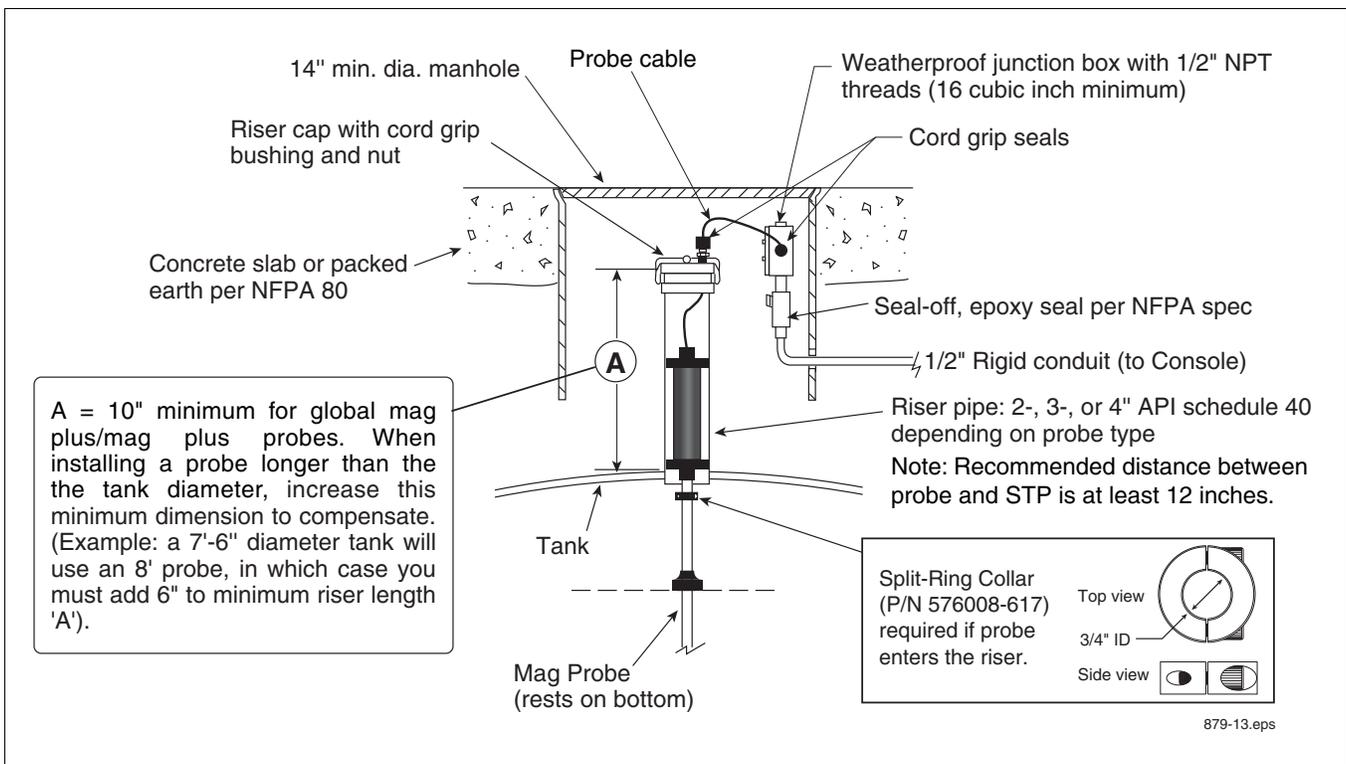
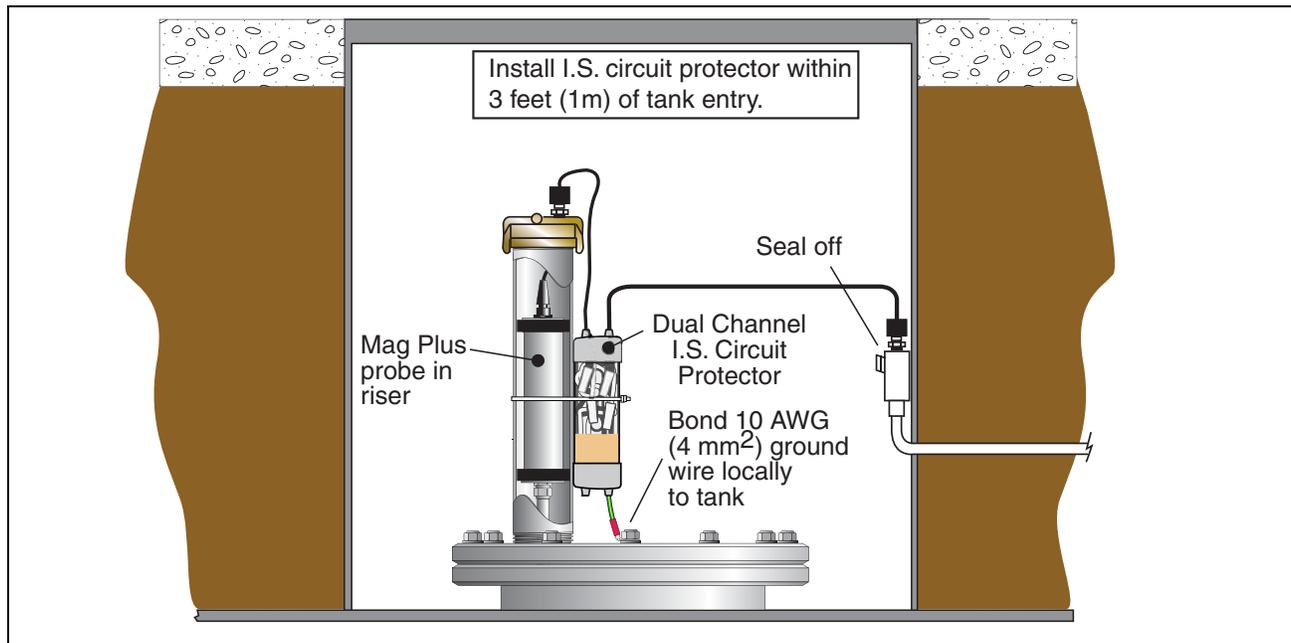
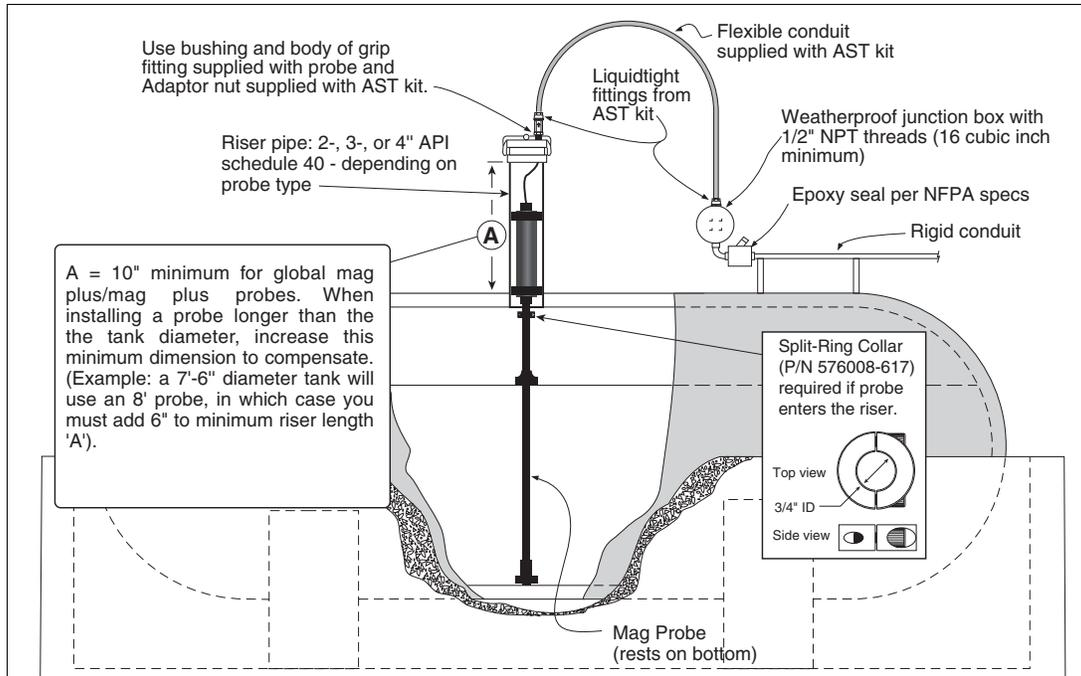

Figure 12. UST Mag Plus Probe Installation - Dedicated Riser
Figure 13. Optional UST Mag Plus Probe Installation With I.S. Circuit Protector
Figure 14. AST Mag Plus Probe Installation - Dedicated Riser
4. Gently slide the float(s) to the bottom of the probe shaft before raising the probe. Carefully lower the probe into the riser pipe until the boot rests on the bottom of the tank [See Figure 12 for example UST installation, Figure 13 for example UST installation with I.S. Circuit Protector or Figure 14 for example AST installation].